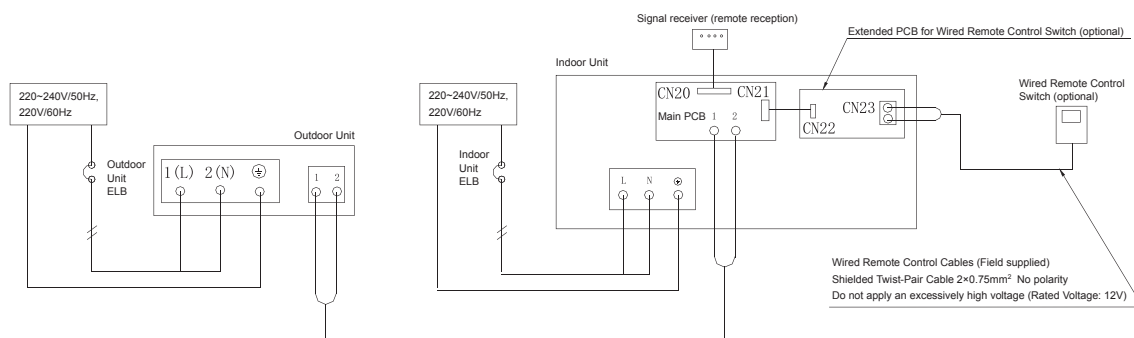

Figure 9.1 Electrical Wiring Connection Diagram of Indoor and Outdoor Units for 1-phase 3-wire type
- (1) Connect the power wires to the terminal board in electrical box of the indoor and outdoor unit, and connect the earth wire to the electrical box of the outdoor unit. In addition, connect the earth wire to the earth stud in electrical box of indoor unit. Refer to figure 9.1.
- (2) Connect communication wires between indoor and outdoor unit to terminal 1 and 2 of the terminal board; if the power wiring is connected to 1 and 2 of the terminal board, printed circuit board will be damaged.